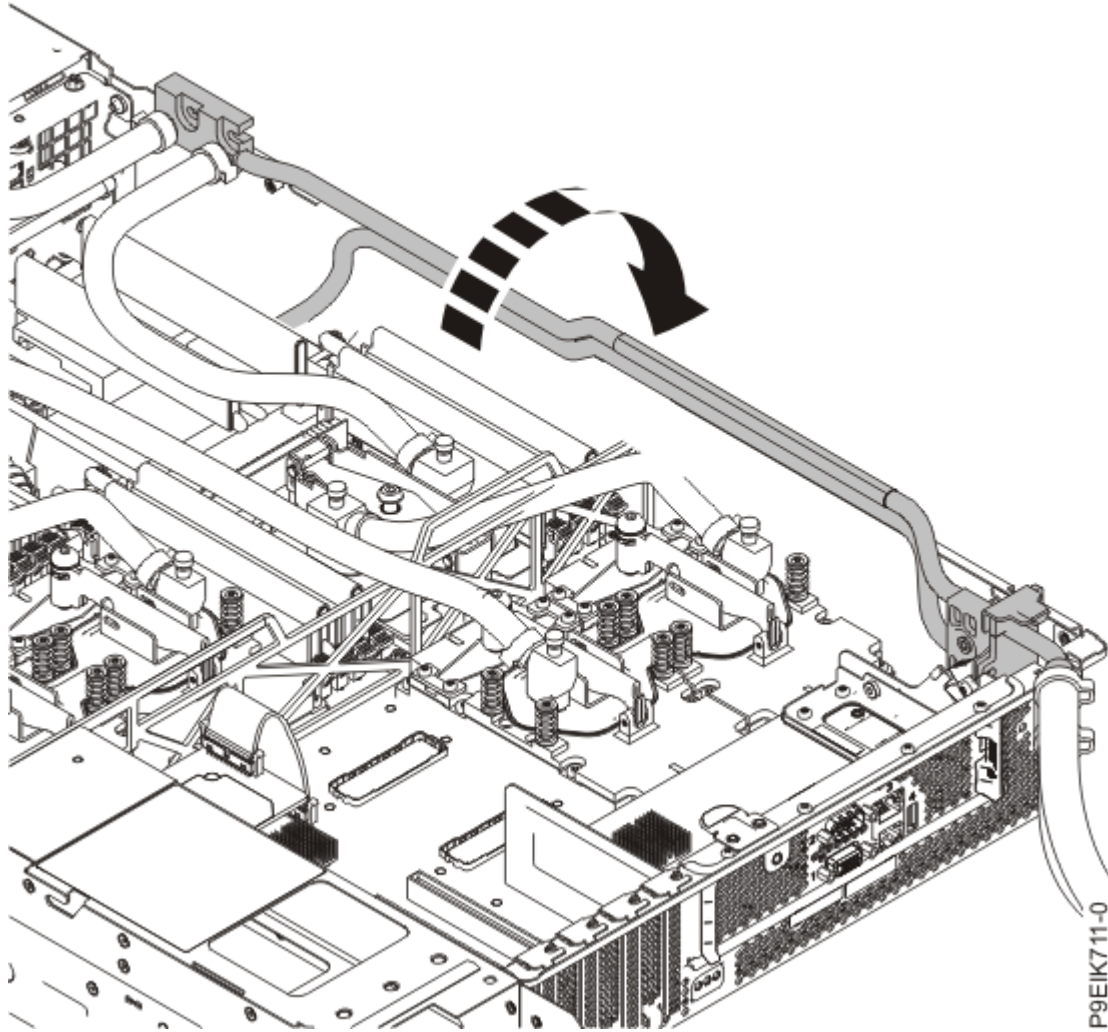

Figure 12. Lifting out the side pipes
9. Lift the pipes slightly out of the chassis. Rest the pipes against the side as shown in Figure 12 on page 16.